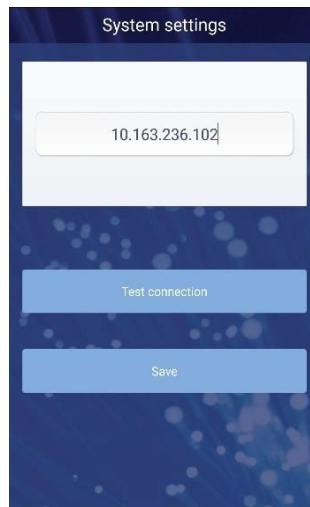

Figure 3-97 Server Address Settings page
2. Click the System Settings button to enter the system interface, as shown in Figure 3-97.